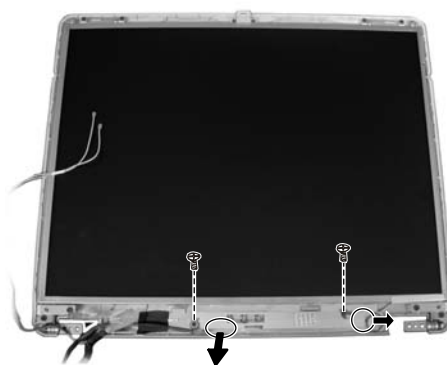

Figure 2-28 Remove the Inverter Board
7. Remove two screws and disconnect the cables from the inverter board. (Figure 2-28)